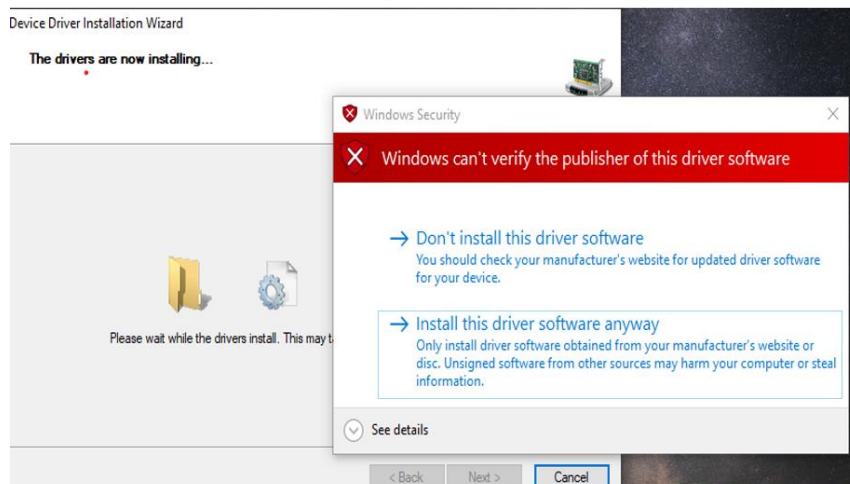

Figure 5.34. Windows Security in Driver Installation
8. If you receive a Windows Security prompt, select **Install this driver software anyway** as shown in Figure 5.34.